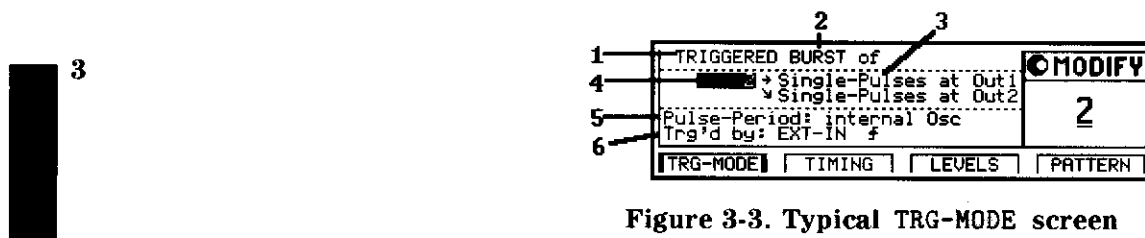

Figure 3-3. Typical TRG-MODE screen
- Select between Single and Double-pulses per pulse-period for each OUTPUT (See **3** in Figure 3-3):
- If the HP 81106A PLL/External clock is fitted, select the pulse-period source (See **5** in Figure 3-3):
- Select the number of pulse-periods per burst in the range 2 – 65536 (See 4 in Figure 3-3).
- Select between Single and Double-pulses per pulse-period for each OUTPUT (See 3 in Figure 3-3):
- If the HP 81106A PLL/External clock is fitted, select the pulse-period source (See 5 in Figure 3-3):
- Select between RZ and NRZ data pulses for each OUTPUT (See **3** in Figure 3-3):
- Single pulse-periods are triggered by (Trg'd by) an active edge at the selected arming source (See 6 in Figure 3-3):